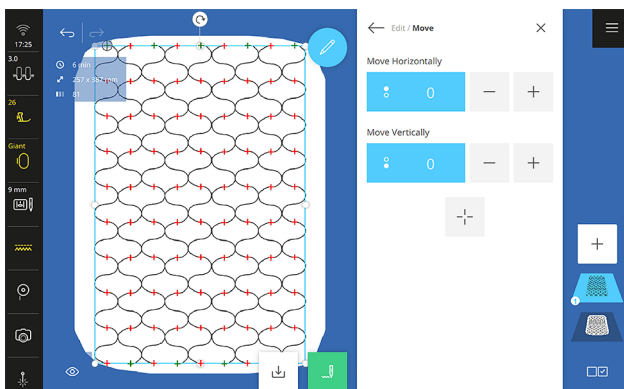

Fig. 38
16. Select Move, then tap the Center function to bring the entire composition to the center of the hoop (Fig. 38).